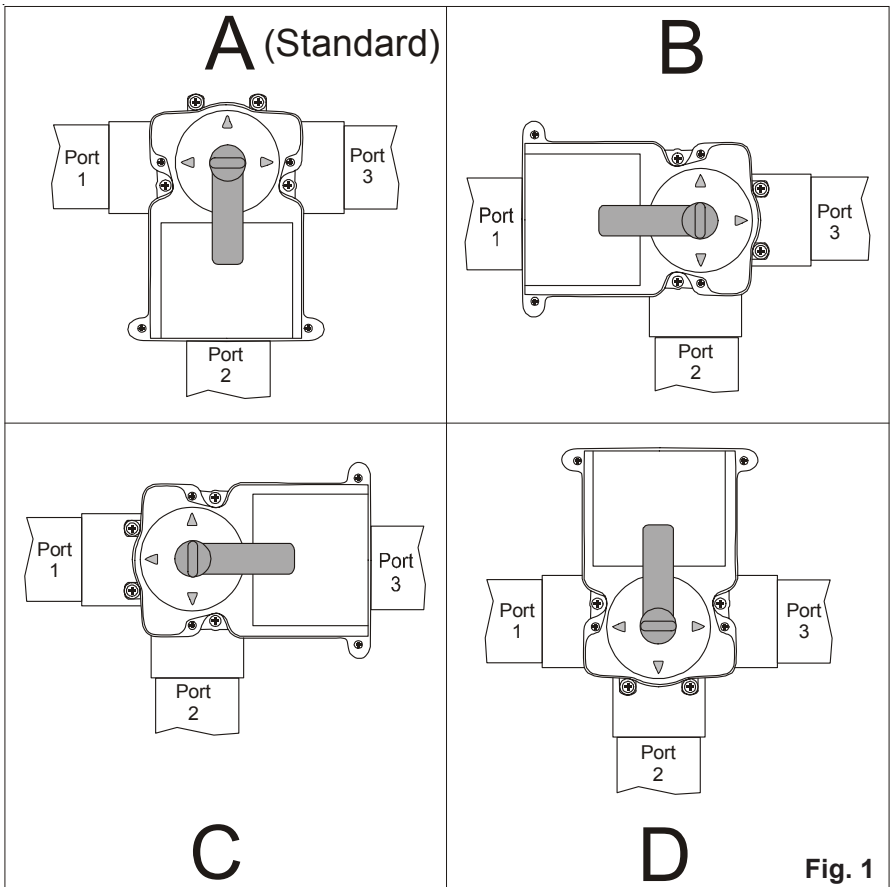

Fig. 1
The Model GVA-24 Actuator may be mounted to the valve in four different positions (Fig. 1). Depending on the location of the common port (where water enters valve) and exit port (where water leaves valve), the cam settings may have to be changed. See diagrams/tables on the following pages to determine which configuration matches your system.
2. Remove four (4) screws from the valve. Refer to Fig. 1 (mounting positions) to determine which screws to remove.
5. Use four (4) ¼-14x1½" long screws (packaged with the actuator) to secure it in place. Do not overtighten - be careful if using a power screwdriver.